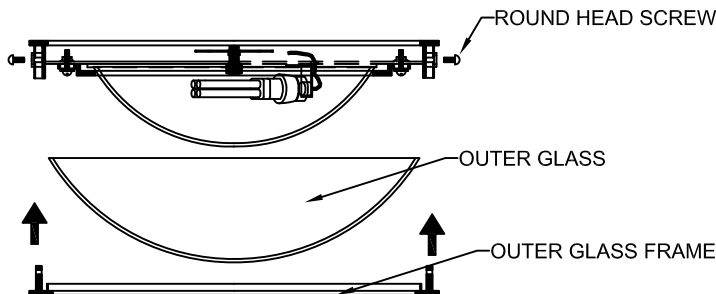

Figure: 1 - 3
STEP 8: Attach outer glass and outer glass frame to center, secure with four (4) round head screws. see Figure: 1 - 3.